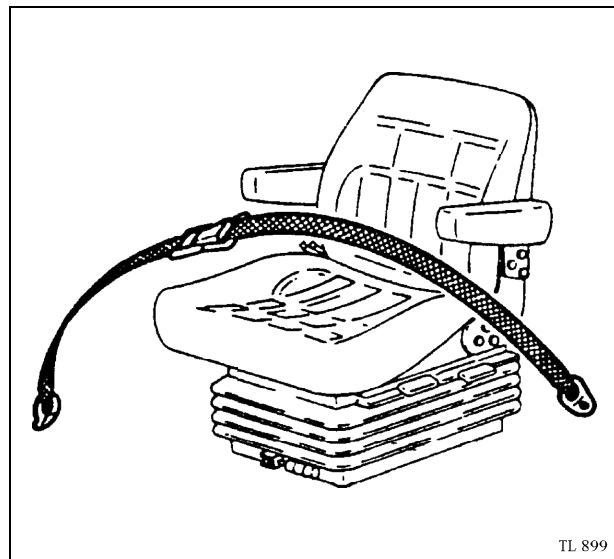

Fig. 6
- Check the seat belt for damage. A damaged seat belt must be replaced (Fig. 6).
- Check ROPS and seat belt for damage. A damaged ROPS or seat belt (see Fig .6) **MUST** be replaced.